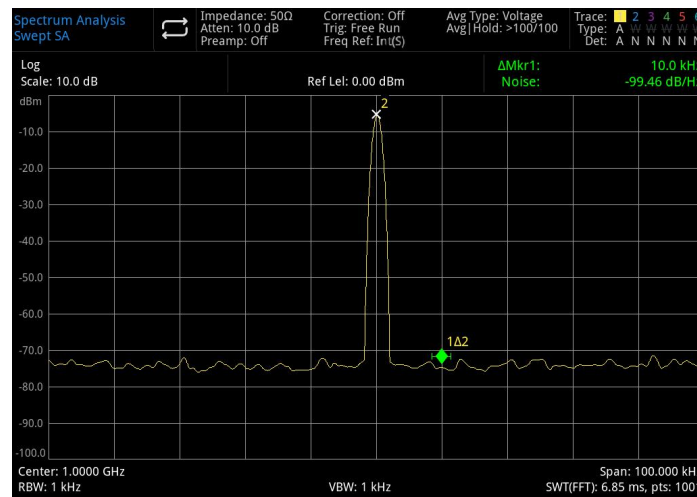

Figure 3-20 Phase Noise
3. Enable **Marker Function > Mark Noise**, as shown in Figure 3-20.